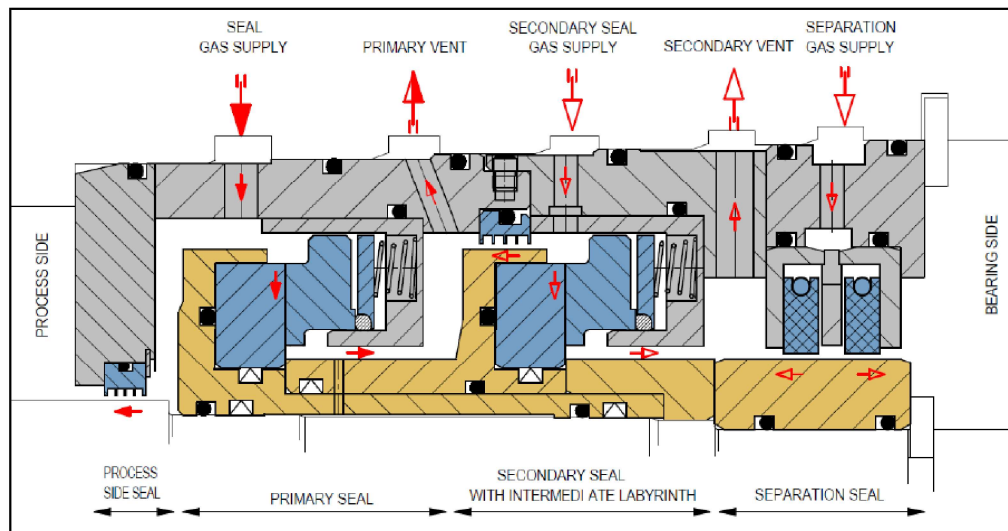

Figure.8. Tandem Seal with Intermediate Labyrinth Schematic
- tandem with intermediate labyrinth arrangements (**Figure.8**).